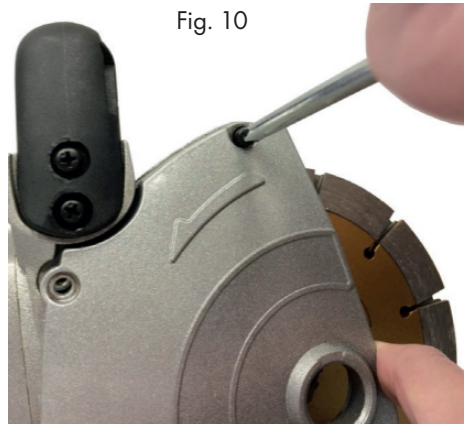

Fig. 10
- Remove the side cover (15) by loosening the three screws, Fig. 10.